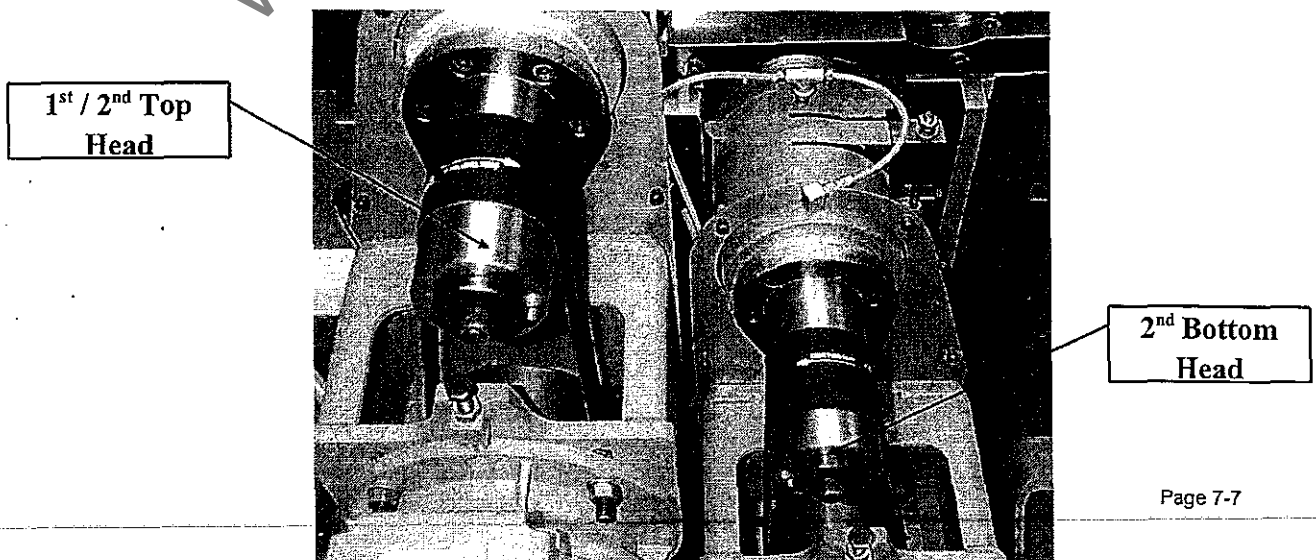

Figure 7.3.4
12. To re-assemble the spindle simply reverse the above procedure remembering to follow the belt tensioning information documented in (Figure 7.3.4.)
15. To re-assemble the spindle simply reverse the above procedure remembering to follow the belt tensioning information documented in (Figure 7.3.4.)
7.3.4 Replacing K23/K25 Top and Bottom Drive Belts (Figure 7.3.4.)
6. Refer to Figure 7.3.4. to ensure the direction of the belt conforms to the spindle position on the machine.